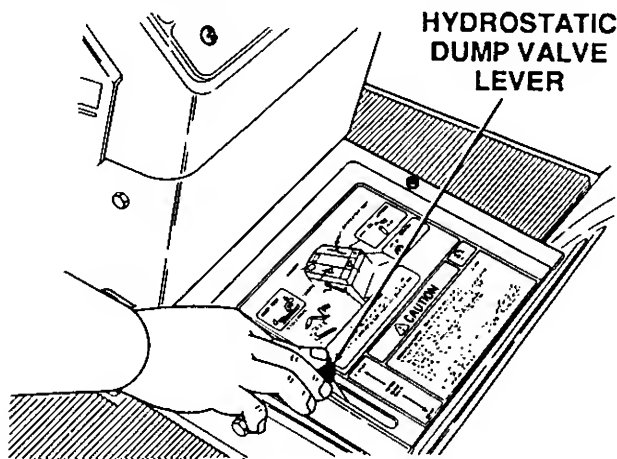

Figure 10
1. To engage the dump valve (making the tractor free-wheeling), push the lever forward and hold in this position. (Refer to Figure 10.)